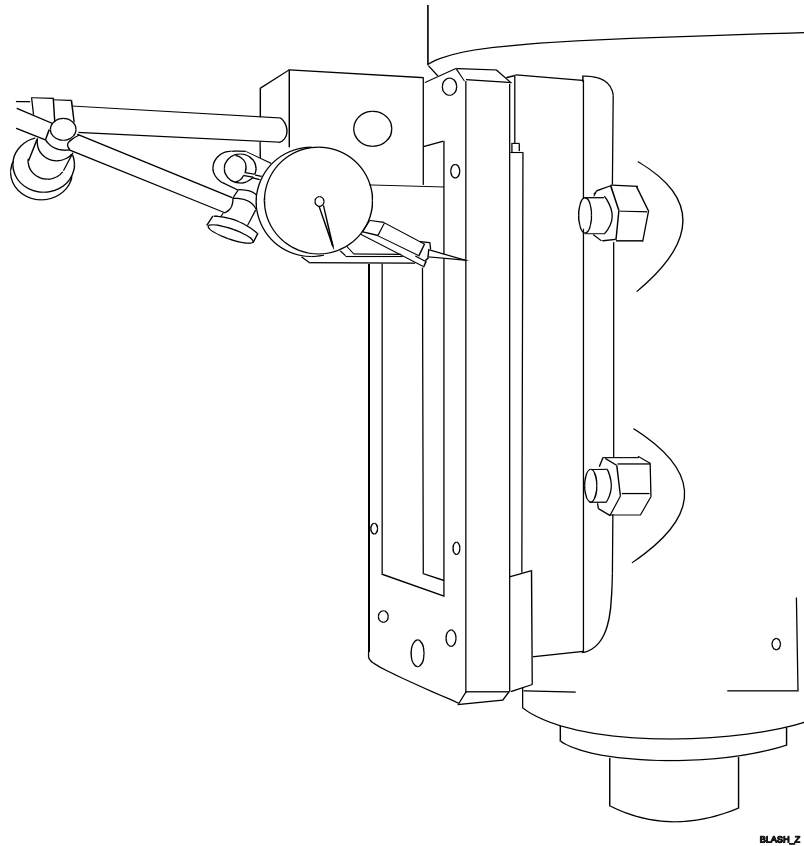

Figure 3-23, Aligning the Z-Axis Mounting Plate
12. Refer to **Figure 3-23**. Verify that the front plate surface is parallel to the line of quill travel.